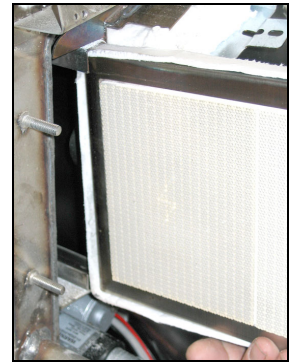

Figure 15
17. Carefully slide the replacement burner into the rails starting at the top and lifting slightly up on the bottom (see Figure 15). Ensure that the insulation is not torn or damaged.